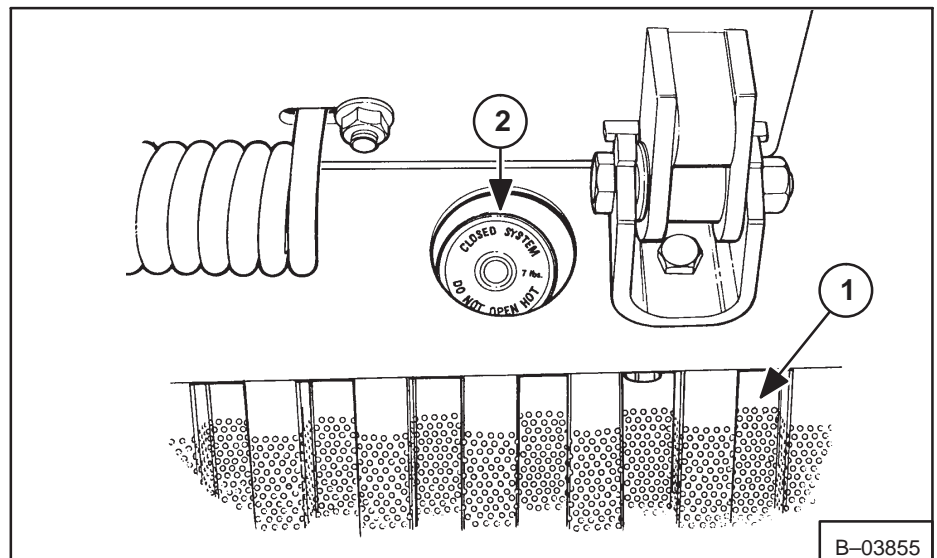

Fig. 1-28 Grill And Radiator Cap
2. Remove the grill (Fig. 1-28, Item 1).
3. Remove the radiator cap (Fig. 1-28, Item 2). The grill must be removed to do this.
5. Install the grill (Fig. 1-28, Item 1).